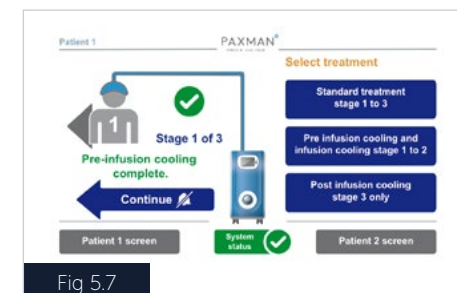

Fig 5.7
- Upon completion of Stage 1 pre-infusion cooling the screen will indicate cooling complete (Fig 5.7).